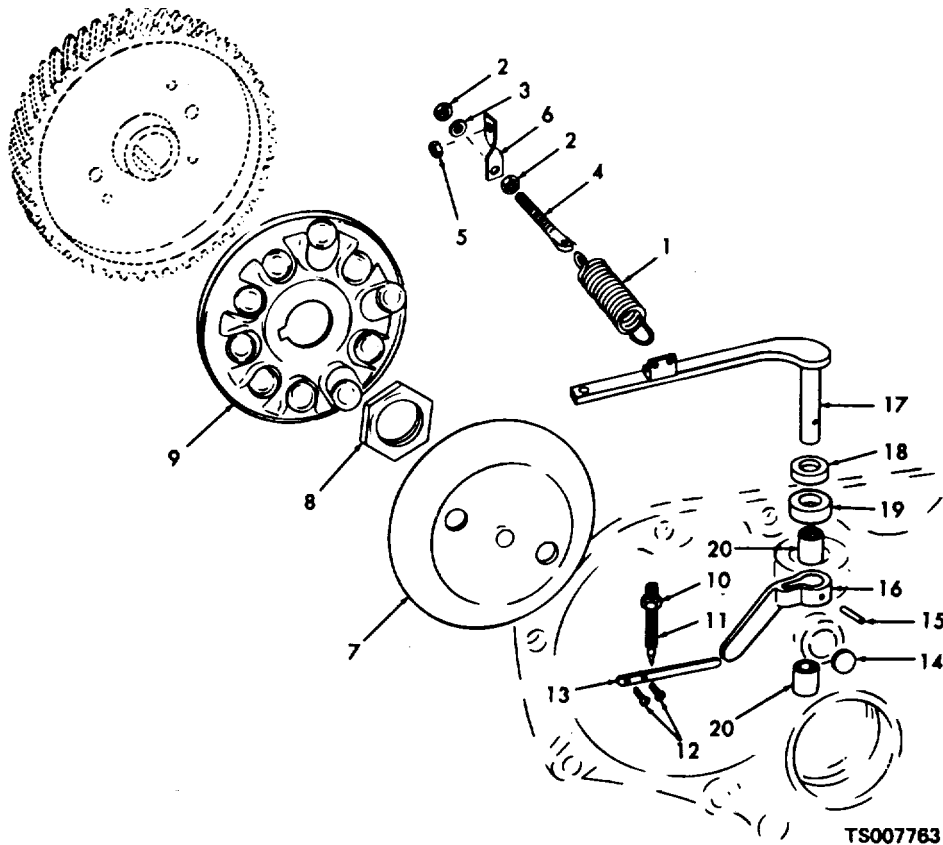

Figure 6-3. Governor Assembly. Exploded View.
- d. Disconnect the linkage from the governor arm (TM 10-3930-632-12). Disconnect the spring (1, fig. 6-3) and remove the nuts (2), lockwashers (3), and adjusting bolt (4) from the bracket (6).
KEY to figure 6-3:
i. Refer to figure 6-3 and remove and disassemble the governor assembly.
a. Refer to figure 6-3 and reassemble and install the governor assembly. Install the rotating parts (7 through 9) on the timing gear and camshaft. Install the governor arm and lever and associated parts (14 through 20) on the gear cover.
b. When installing the needle bearings (20) in the bore of the gear cover, tap them into position with a driver and light hammer until there is clearance for the oil seal (19) and dust seal (18). Install the oil seal and dust seal.
c. When installing the surge screw (11), turn it into the cover about one-fourth of its length as a preliminary adjustment.
d. Install the adjusting bolt (4), nuts (2) and lockwasher (3) on the bracket (6) so that an equal amount of threads are visible on each side of the nuts. This is a preliminary adjustment. Install the spring (1) between the adjusting bolt and governor arm (17).